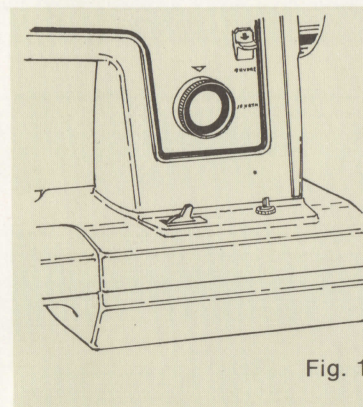

Fig. 1
The light and power switch shown above in Fig. 1 provides the electric current for the motor as well as the light. In order to operate the machine this switch must be on.
1. Let the needle pierce the fabric at the marked top end of the buttonhole. Slide presser foot so arrow points to desired length (1-1/8" buttonhole is set in illustration of foot above.) Lower the buttonhole presser foot. Start with Stitch Width-Buttonhole Control set as pictured in Fig. 1 above.